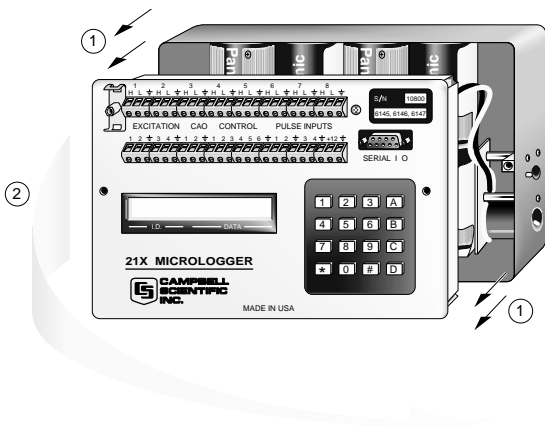

FIGURE 2. Separating the Faceplate From the Base
4. Remove the faceplate from the base by pulling the faceplate straight out from the base (① on Figure 2).
5. Once the faceplate has been disengaged from the mounting posts, rotate the left side of the faceplate away from the base to expose the battery pack (② on Figure 2).